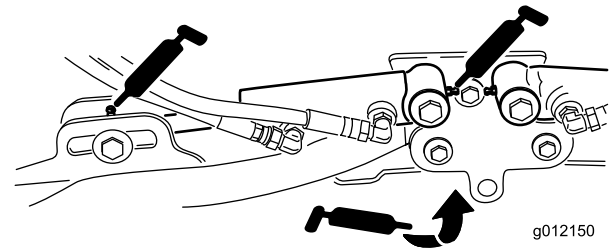

Figure 51
- Cutting unit lift arm cylinders (2 each) (Figure 51)